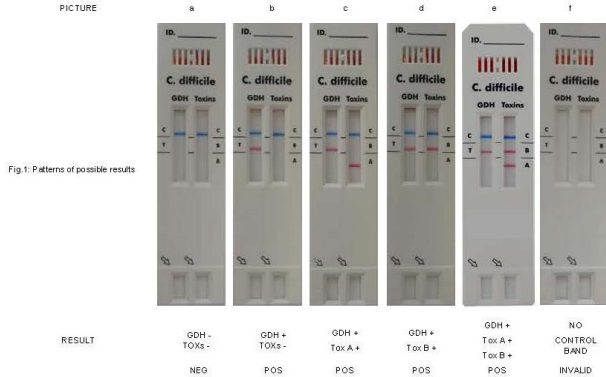

Fig. 1. Patterns of possible results
A diluted patient stool sample is dispensed into both sample ports of the cassette and migrates along the membranes through the Test and Control zones. After 15 minutes of incubation at room temperature, the appearance of a specific colored line in the reading window next to the corresponding letter indicates a positive result in the presence of the Control line (see Fig. 1).
6. Ensure to add the correct volume of the extracted sample to the two sample ports marked with an arrow in the plastic device. If the volume is lower than indicated, the flow may not occur due to insufficient sample reaching the reaction strips; if the volume is higher, brown lines may appear instead of the expected ones (see Fig. 1).
The cassette contains two strips: on the left side the strip for GDH, on the right side the strip for toxins A and B. The possible outcomes are shown in Fig. 1.
8. Highly hemorrhagic samples may interfere with the assay by determining a false negative result or the appearance of aspecific bands. This event is often accompanied by the alteration of the color of the bands. Do not report any result if the bands are not of the correct color (Control Lines must be **BLUE**, Test Lines must be **PINK-RED**) – Refer to Fig. 1.